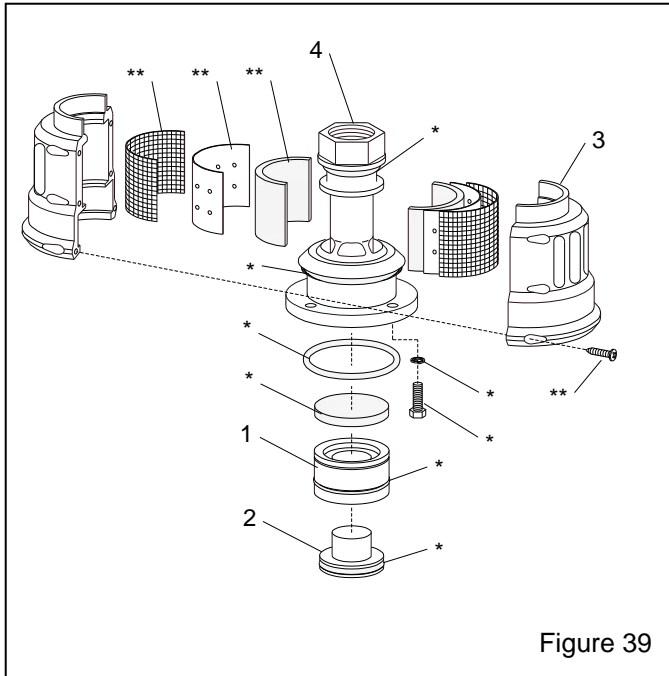

Figure 39
**8.7 Millennium Valve Outlet Segment, Figure 39**